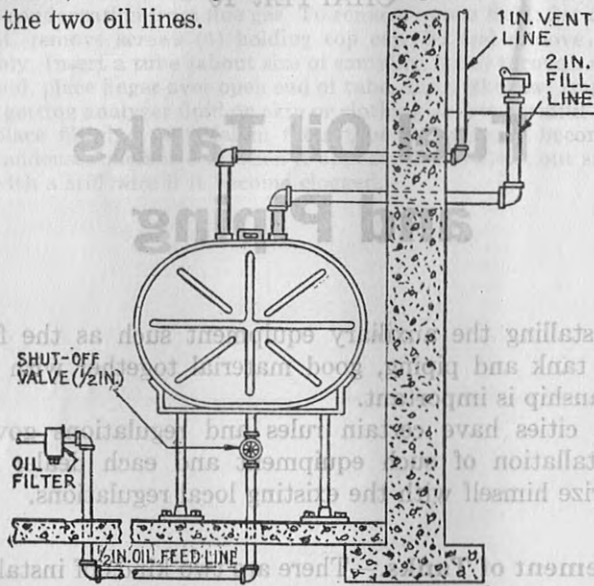

FIG. 1—Piping diagram for single inside fuel oil storage tank.
**Ans.** It should be connected to the top of the tank as shown in fig. 1.